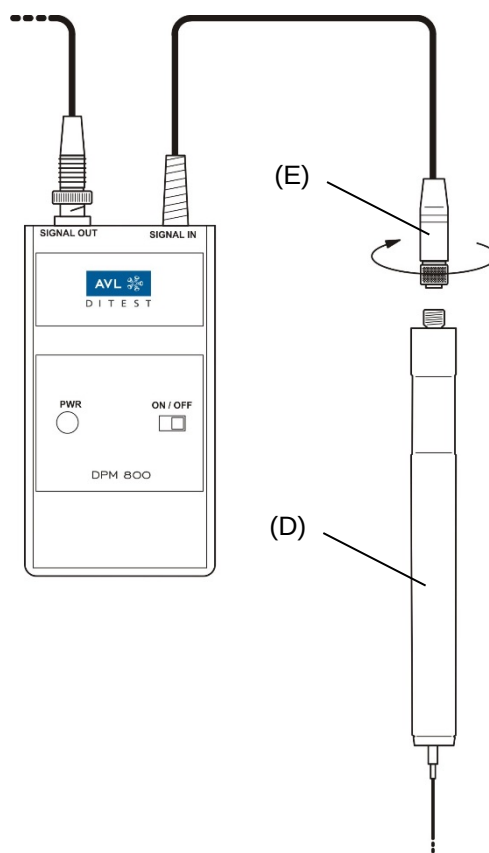

Fig. 3-3
7. Screw the lead from the AVL DiTEST DPM 800 power supply unit **SIGNAL OUT** connection (E) to the AVL DiTEST DPM 800 amplifier (D), see Fig. 3-3.